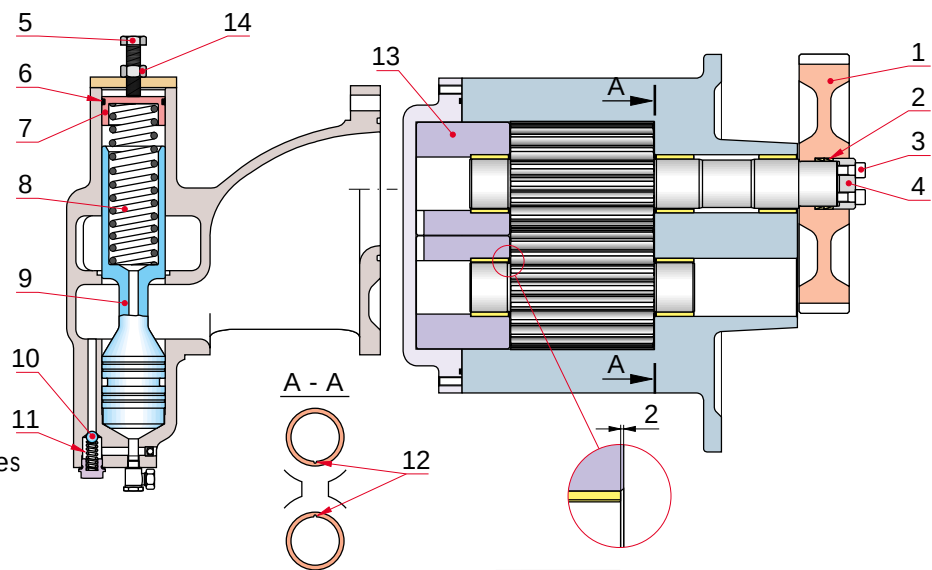

Fig 18-2
The pressure in the distributing pipe is regulated by a pressure control valve (4) on the pump. The pressure can be adjusted by means of a set screw (Fig 18-2, pos. 5) on the control valve. It is very important to keep the correct pressure in order to provide efficient lubrication of bearings and cooling of pistons. Normally, the pressure stays constant after having been adjusted to the correct value.
**3 Mount new bearings** (freezing is recommended) so that the bearings are two 2 mm below the sleeves and housing level, Fig 18-2. Be careful so that bearing lubrication grooves (12) slide into the right position according to section A-A in Fig 18-2.
The pressure regulating valve, see Fig 18-2, is integrated in the lubricating oil pump module and regulates the oil pressure before the engine by returning the surplus oil direct from the pressure side of the pump back to the sump.